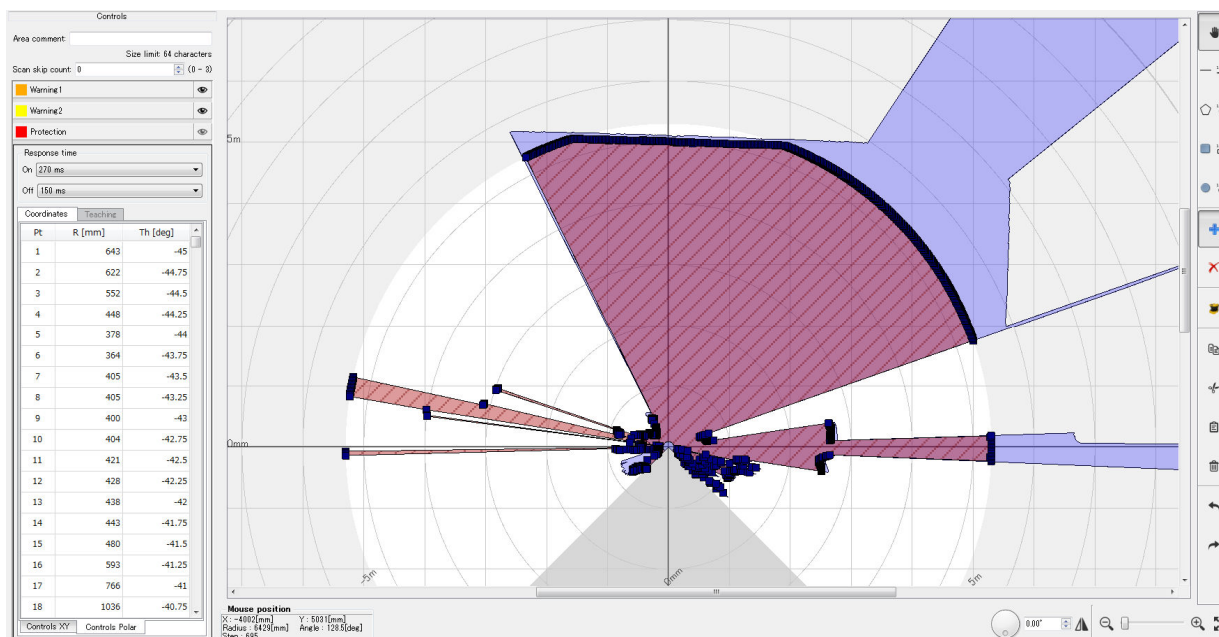

Figure 7-46 Area configured by teaching
- When the stop button is clicked, an area is generated by the smallest data recorded. Configured area will resemble the UAM's background. (Figure 7-46). When configuring the protection zone, if the background is not within the maximum detection distance it is set to maximum detection distance of UAM. In case of warning area, if there is no background within 20m from UAM it will be set to 20m.